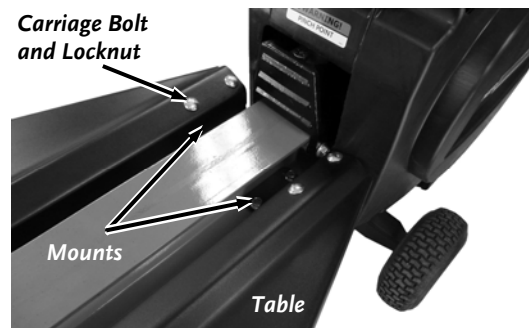

Figure 14
4. Install the Table to the Tray Mounts with four 3/8-16 x 1" Carriage Bolts and Locknuts using a 9/16" Wrench (Figure 14).